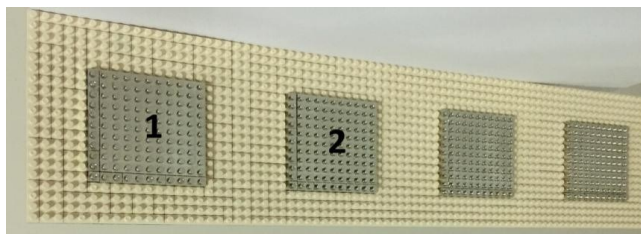

Figure 1 Example of a 1-D array (1X4 linear array antenna)
16. Connect the antenna 1 to port 1 of the Network Analyser and antenna 2 to port 2 of the Network Analyser (Antenna 1 and 2 are shown in Figure 1).